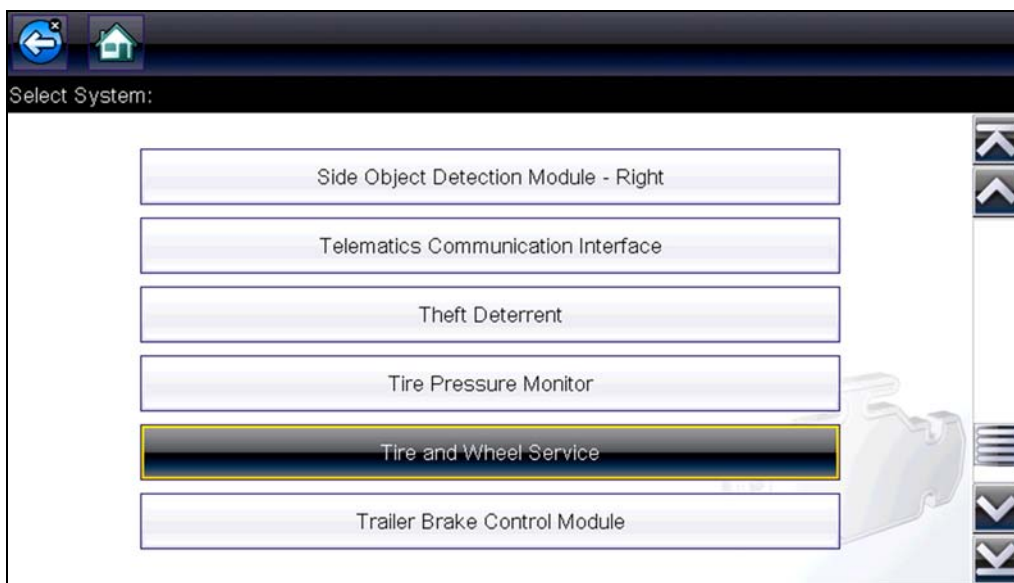

Figure 6-11 Scanner System Menu
- **From within a current Scanner session** - select **Tire and Wheel Service** (or applicable choice) from the System menu (Figure 6-11), then proceed to Step 3 below.